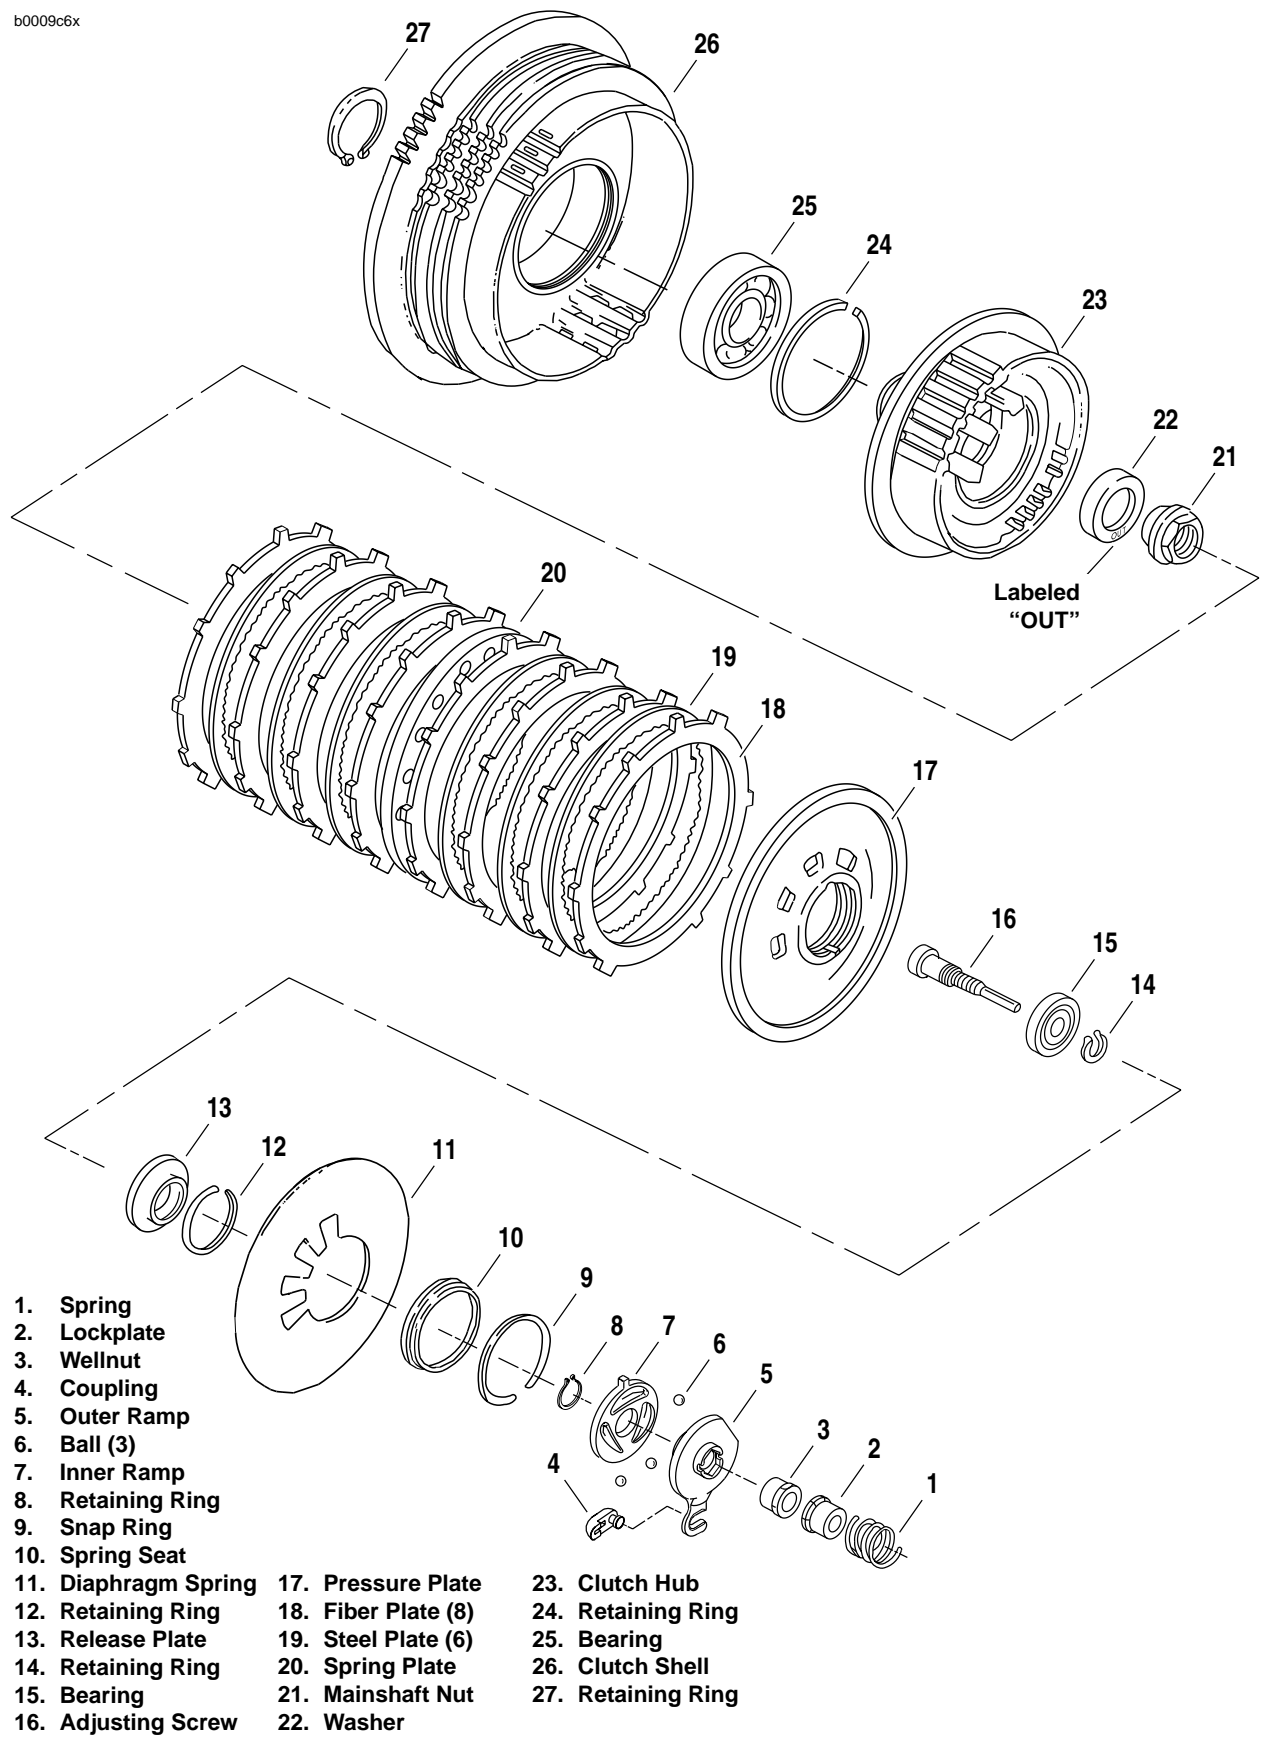
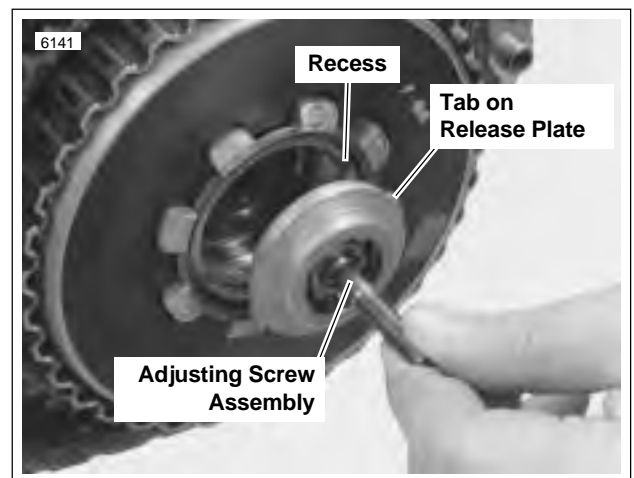

Figure 6-16. Clutch Assembly
Figure 6-18. Aligning Tabs
- a. Place a wrench on the clutch spring forcing screw (1) flats to prevent the forcing screw from turning.
- b. Turn compressing tool handle (5) clockwise until tool relieves pressure on snap ring (8) and spring seat (9). Remove and discard snap ring (8).
- c. Unseat spring seat (9) from the groove in clutch hub prongs.
5. See Figure 6-16. Remove the clutch pack from the hub/shell assembly. The pack consists of eight fiber plates (18), six steel plates (19) and a spring plate (20).
See Figure 6-16. Mainshaft nut (21) has left-hand threads. To prevent damage, turn nut clockwise to loosen and remove from mainshaft.
5. Remove mainshaft nut (21) and washer (22).
- a. See Figure 6-18. Align two tabs on perimeter of release plate with corresponding recesses in pressure plate.
See Figure 6-16. Due to the possible damage to the bearing (25), the clutch hub (23) and shell (26) assembly should not be disassembled unless the bearing, hub or shell require replacement. If the assembly is pressed apart, the bearing must be replaced.
1. See Figure 6-16. Wash all parts, except fiber (friction) plates (18) and bearing (25), in cleaning solvent. Blow dry with compressed air. Examine the clutch components as follows:
- b. Inspect each steel (drive) plate (19) for grooves.
2. Check the diaphragm spring (11) for cracks or bent tabs. Install a **new** spring if either condition exists.
- See Figure 6-16. Install the clutch pack, which consists of eight fiber plates (18), six steel plates (19) and a spring plate (20), into the clutch hub (23). The order of plate assembly, from inboard to outboard, is as follows:
- b. Place washer (2) on mainshaft with the word "out" facing away from clutch hub (3).
- c. Install nut (1) (**left-hand threads**). Tighten to 70-80 ft-lbs (95-109 Nm).